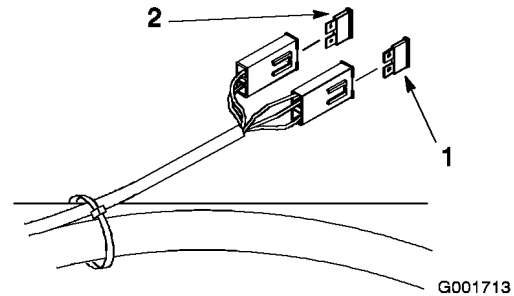

Figure 42
1. Unlatch the seat and raise the seat to gain access to fuse holder (Figure 42).
3. Install a new fuse (Figure 42).